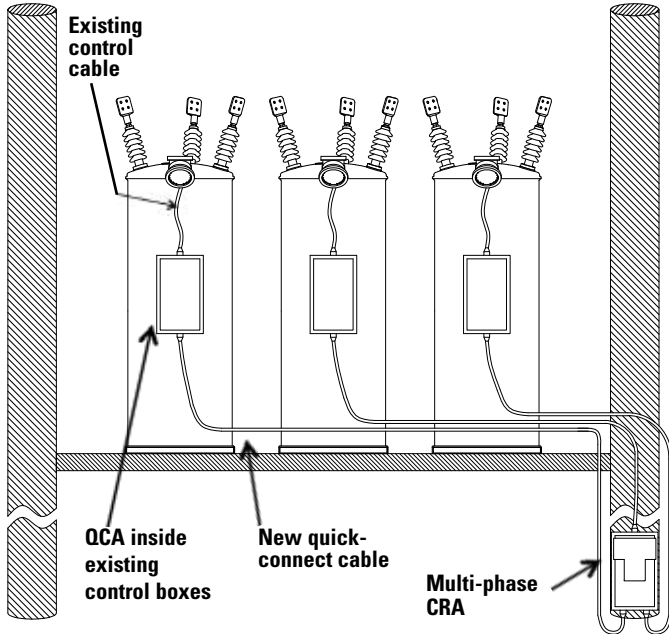

Figure 2. Existing control boxes converted to junction boxes using QCAs. New quick connect cables and a multi-phase CRA are added.
*This is the option shown in Figure 2.